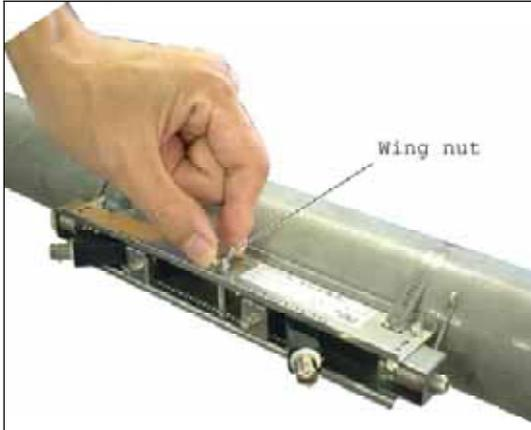

Fig. 3-39
- (1) Loosen the wing nut located at the middle of the frame with 3 to 4 turns (Fig. 3-39).